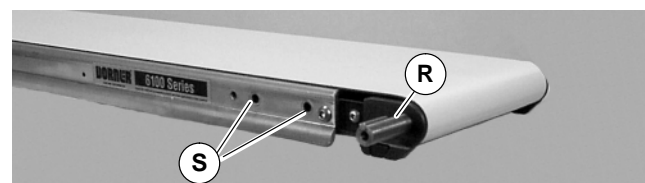

Figure 12
4. Locate drive output shaft (R of Figure 12) and remove two (2) screws (S).